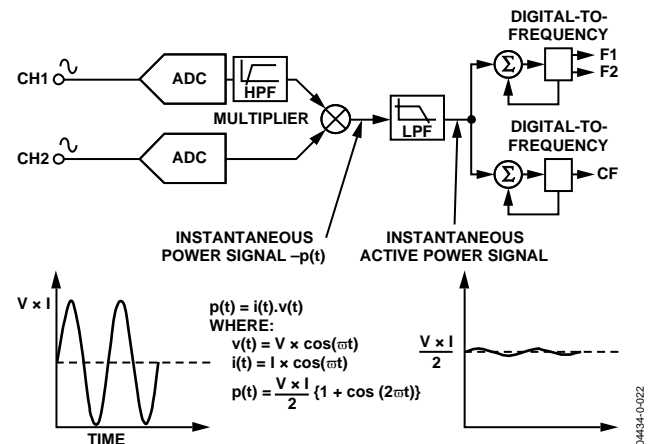

Figure 17. Signal Processing Block Diagram
The active power calculation is derived from the instantaneous power signal. The instantaneous power signal is generated by a direct multiplication of the current and voltage signals. To extract the active power component (dc component), the instantaneous power signal is low-pass filtered. Figure 17 illustrates the instantaneous active power signal and shows how the active power information can be extracted by low-pass filtering the instantaneous power signal. This scheme correctly calculates active power for nonsinusoidal current and voltage waveforms at all power factors. All signal processing is carried out in the digital domain for superior stability over temperature and time.
The pulse output calibration frequency (CF) is intended for use during calibration. The output pulse rate on CF can be up to 2048 times the pulse rate on F1 and F2. The lower the F₁₋₄ frequency selected, the higher the CF scaling. Table 6 shows how the two frequencies are related, depending on the states of the logic inputs S0, S1, and SCF. Because of its relatively high pulse rate, the frequency at this logic output is proportional to the instantaneous active power. As with F1 and F2, the frequency is derived from the output of the low-pass filter after multiplication. However, because the output frequency is high, this active power information is accumulated over a much shorter time. Therefore, less averaging is carried out in the digital-to-frequency conversion. With much less averaging of the active power signal, the CF output is much more responsive to power fluctuations (see Figure 17).